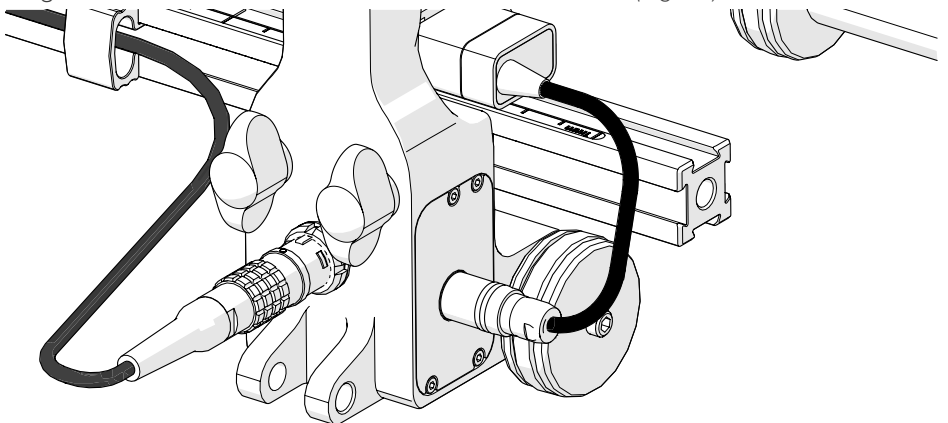

Fig. 59 - Connect index encoder to corrosion link
4. Plug the index encoder connector to the corrosion link (Fig. 59).